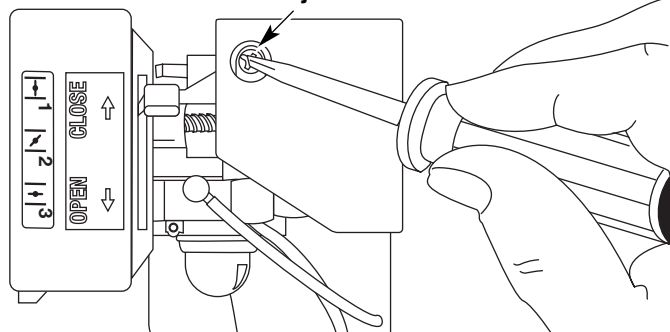

Fig. 26
The idle speed of the engine is adjustable. An idle adjustment screw is between the air filter cover and the engine starter housing (Fig. 26).
- Move the throttle control lever to the Slow position (🐢) and let the engine idle. If the engine stops, insert a small phillips in between the Air Filter Cover and the Engine Cover (Fig. 26).